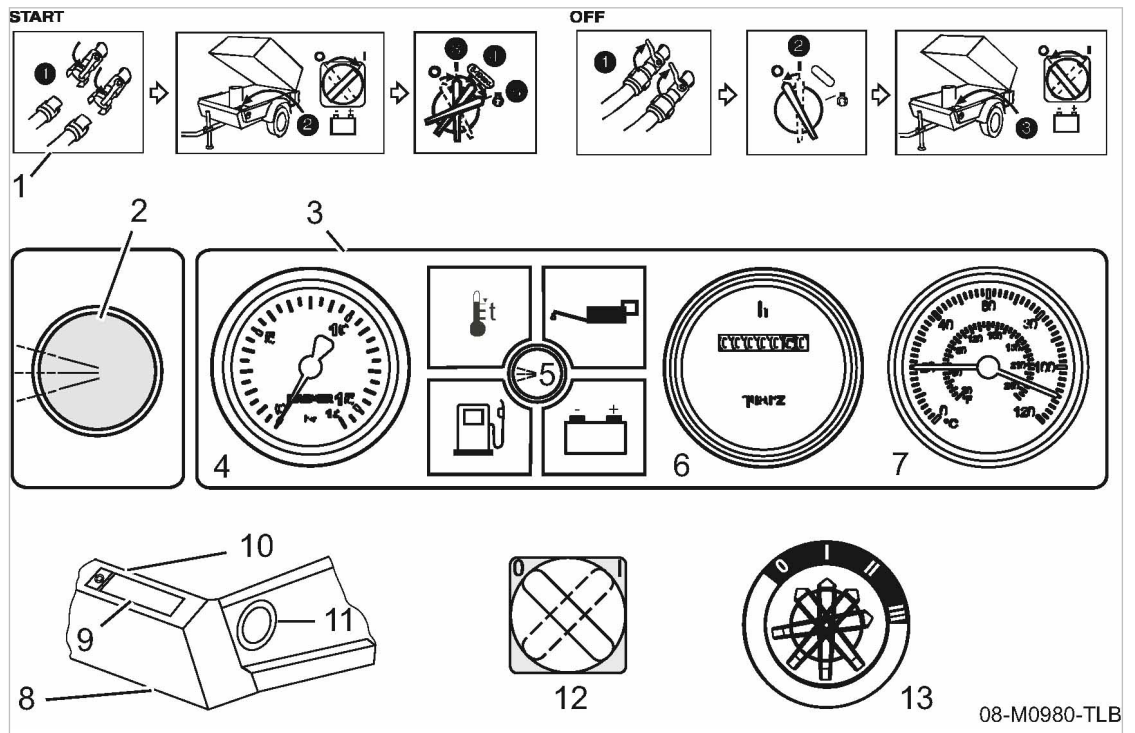

Fig. 15 Starting instruments
«Full load ON» push-button (2) see figure 15.